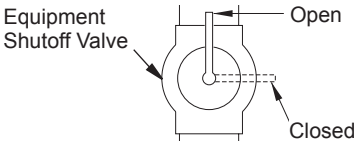

Figure 14 - Equipment Shutoff Valve
1. Close equipment shutoff valve (see Figure 14).
1. Open equipment shutoff valve (see Figure 14).
3. Close equipment shutoff valve (see Figure 14, page 12).